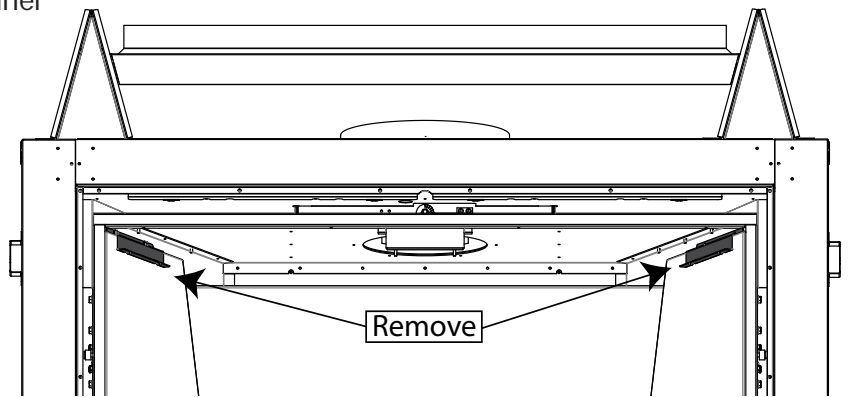

Figure 77: Liner Retainers
Step 3. Remove the side liner retainers one at a time using a 5/16 socket (see Figure 77). The screws only have to be loosened, not completely removed, as the retainers are slotted. ***Note:** The upper rear liner is supported by the side liners. When removing the side liners, be sure to properly support the upper rear liner so that it does not fall.